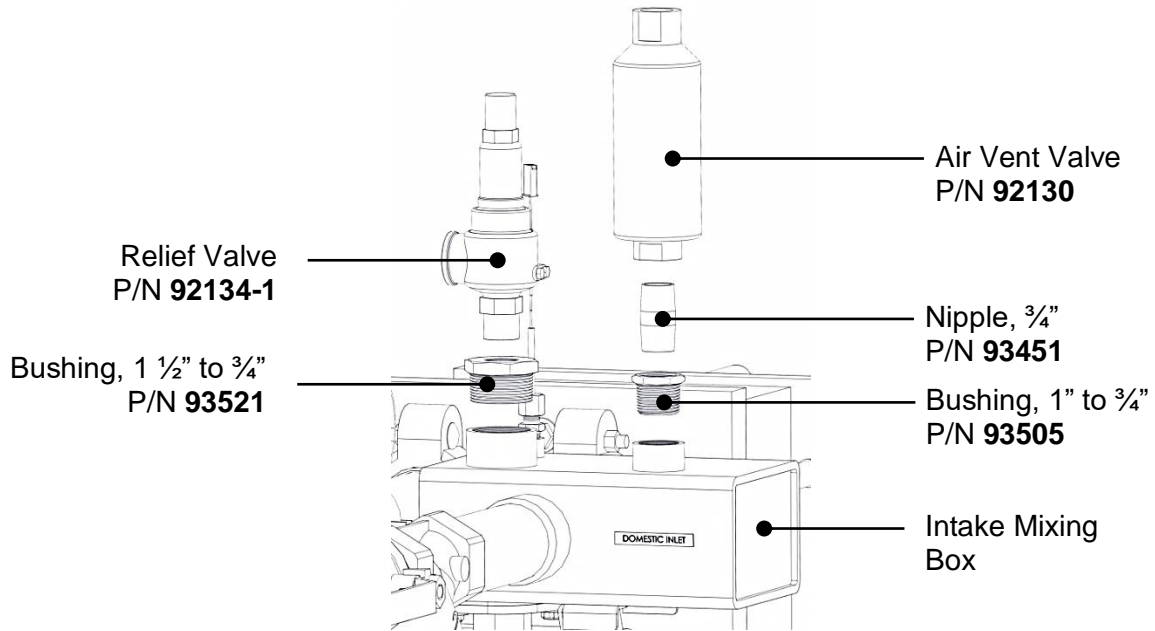

Figure 2-10. Relief Valve and Air Vent Valve Installation – 200 PSI – Exploded
2. If you have a 200 PSI unit, install the parts as shown in Figure 2-10.